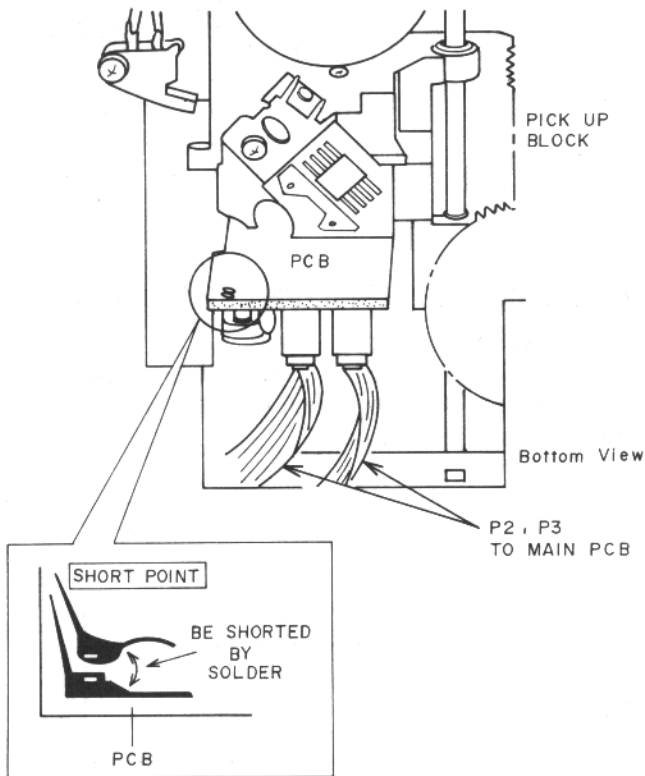

Fig 3-1
- When removing the MAIN PCB's P2 or P3 connectors, first short the short points on the pick up block's PCB with solder as shown Fig. 3-1.